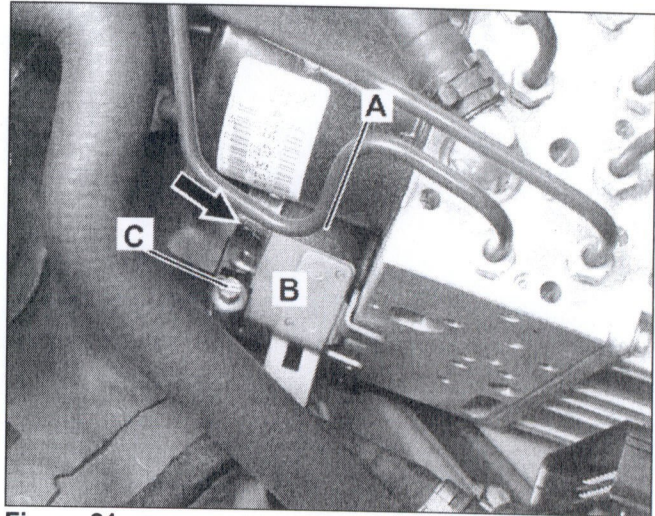

Figure 21
- In order to avoid breaking the self-tapping screw (B) during installation, the screw (B) must be **positioned absolutely straight**
- In the event self tapping screw (B) is broken during installation of bracket (A) perform step 24 then continue with campaign (installation of bracket due to breakage of mounting screw will **not** be covered under warranty).
- Remove self tapping screw (B)
- Position bracket (A) on SBC hydraulic unit, reinstall self tapping screw (B) and **torque to 7 Nm**.
24. Install clamp-on mounting bracket (B, Figure 21) if necessary due to broken self-tapping screw:
- Position mounting bracket (B) onto SBC hydraulic unit (A) as shown in Figure 21.